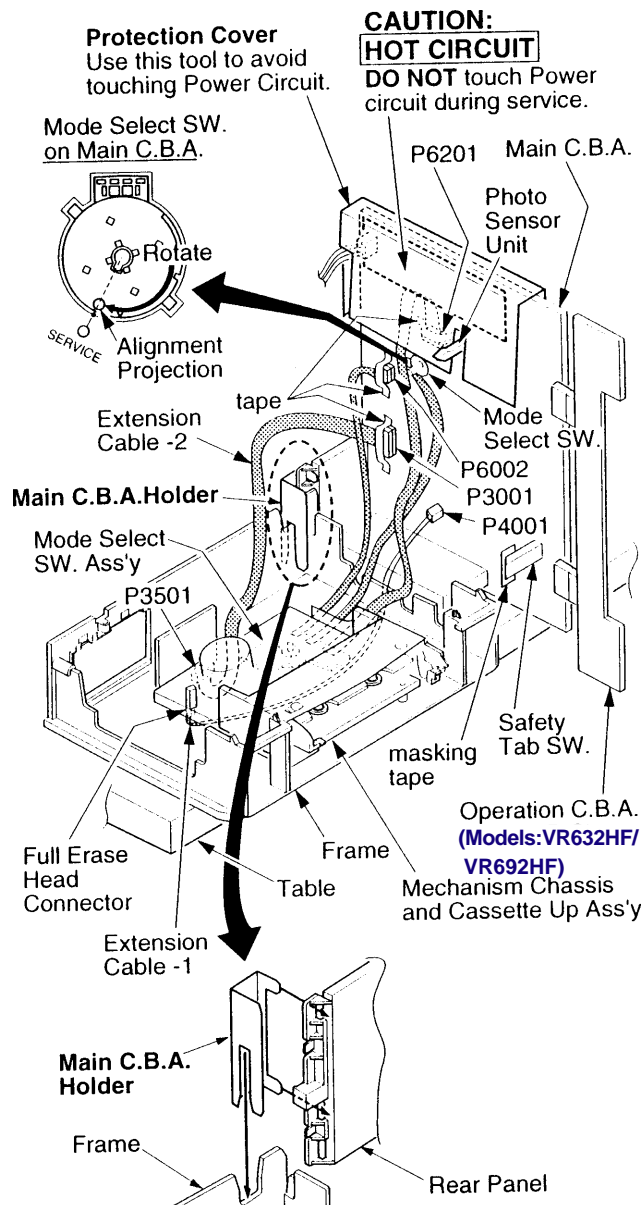

Fig. 9 - Service Position (4)
5. Position the Main circuit board as shown in Fig. 9 using the Main circuit board holder shown in Fig. 8.